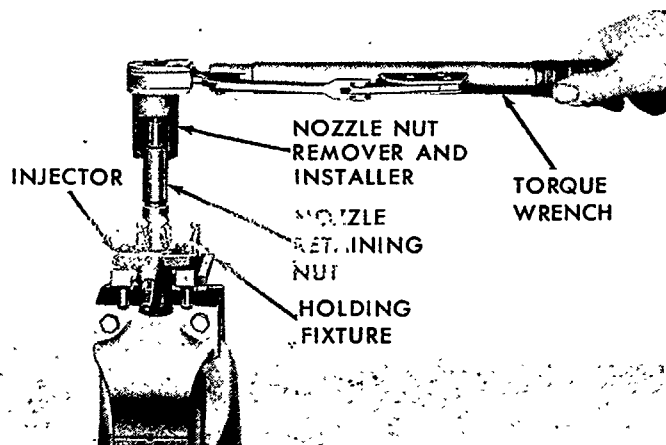
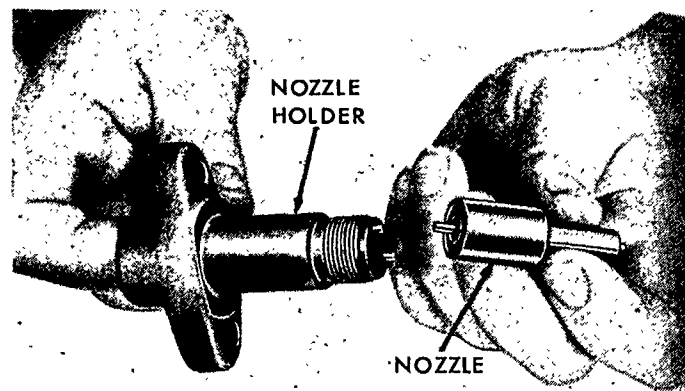

Figure 30
Figure 38
1. Secure the Holding Fixture, page 32, in a vise and place the injector in the Holding Fixture, Figure 30.
3. Remove the nozzle retaining nut, Figure 30, with the Nozzle Nut Remover and Installer, page 32, and remove the nozzle and valve.
2. Position the nozzle and needle valve on the injector holder, making certain the dowel pins in the holder are correctly located in the nozzle, Figure 38. Position a new antifriction washer in the bottom of the nozzle nut bore. Position the nozzle retaining nut over the nozzle and tighten to 50 lbs. ft. (6.9 kgm) with the Nozzle Nut Remover and Installer, page 32. It will be necessary to place the injector in the Holding Fixture, page 32, while tightening the nozzle nut, Figure 30.